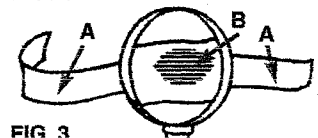

FIG. 3
6. The impressions on the paper give the number of threads per inch (TPI). Both the ODM and TPI are needed. (Fig. 3)
7. You may also use this same method to determine the outside diameter (OD) of a hose.